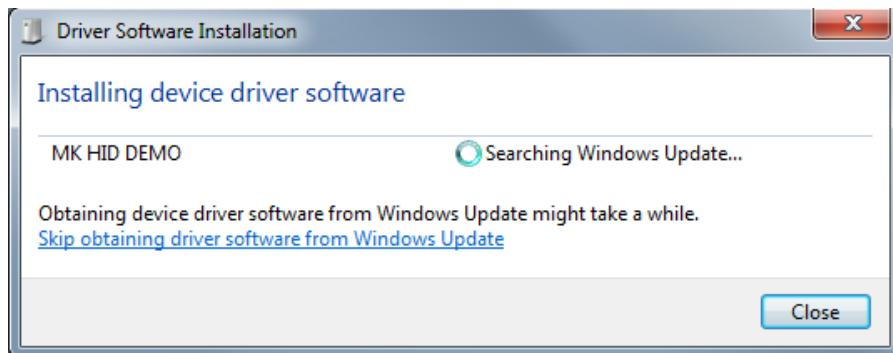

Figure B-2. Find New Hardware callout
1. Connect the hardware to the Windows host computer. As soon as you turn on the device, the HID device gets installed onto the Windows host computer. The Driver Software Installation window is shown in Figure B-2. At this point, the windows installs the host driver for the device.